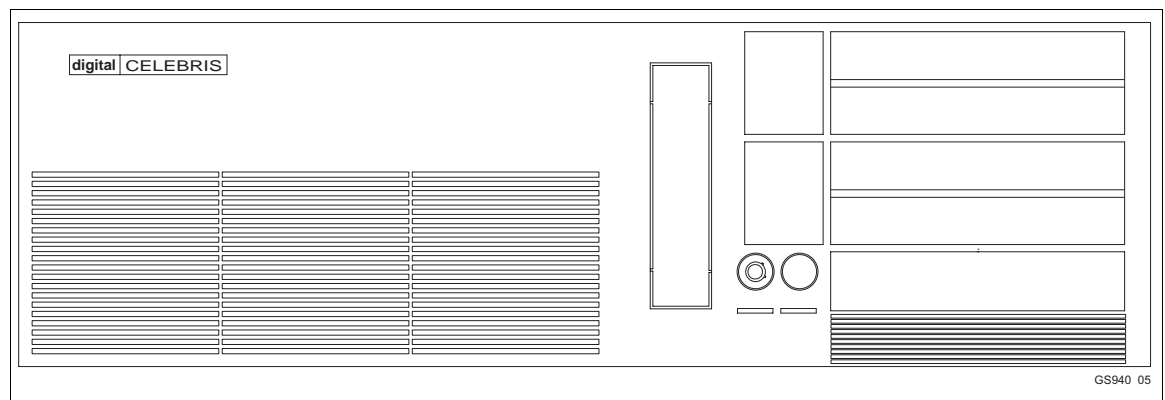

Figure 8-5. Computer Removal
1. At the front of the cabinet, remove the cabinet door and turn off the main circuit breaker on the power entry panel (PEP) to shut off power in the IIOIS12/IIOIC12. Check the power indicator to see if power is removed from the system. See Figure 8-5 when using this procedure.